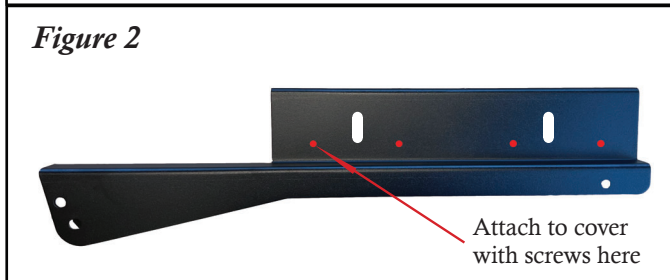

Figure 2
Place the cover mounting bracket on top of the cover, making sure the back edge of the cover bracket is positioned at the marks made in step 2. **For determining L & R bracket, see Fig. 5.** Using (4) of the #10 x 1" self-drilling screws, attach the cover mounting brackets to the cover, making sure the screws hit the aluminum plates inserted in the cover in step 3 (see Fig. 2 for screw location). **When attaching the cover brackets, make sure to apply downward pressure on the top of the bracket to avoid any tenting of the bracket on the cover.**